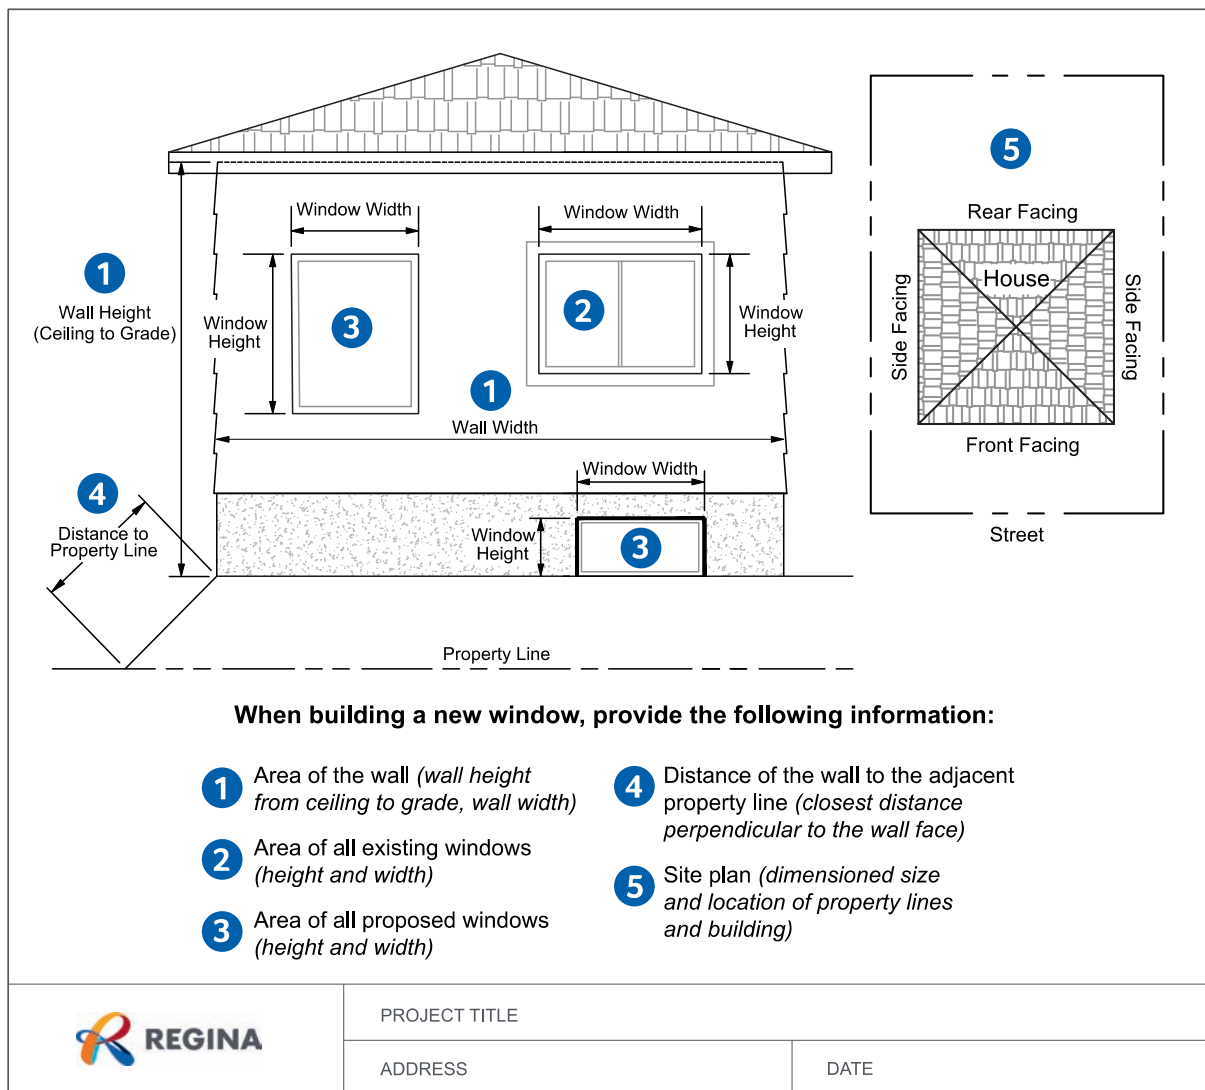

Figure 1 - Sample Window Elevation
- Location and size of proposed and existing windows on same wall face (see Figure 1)